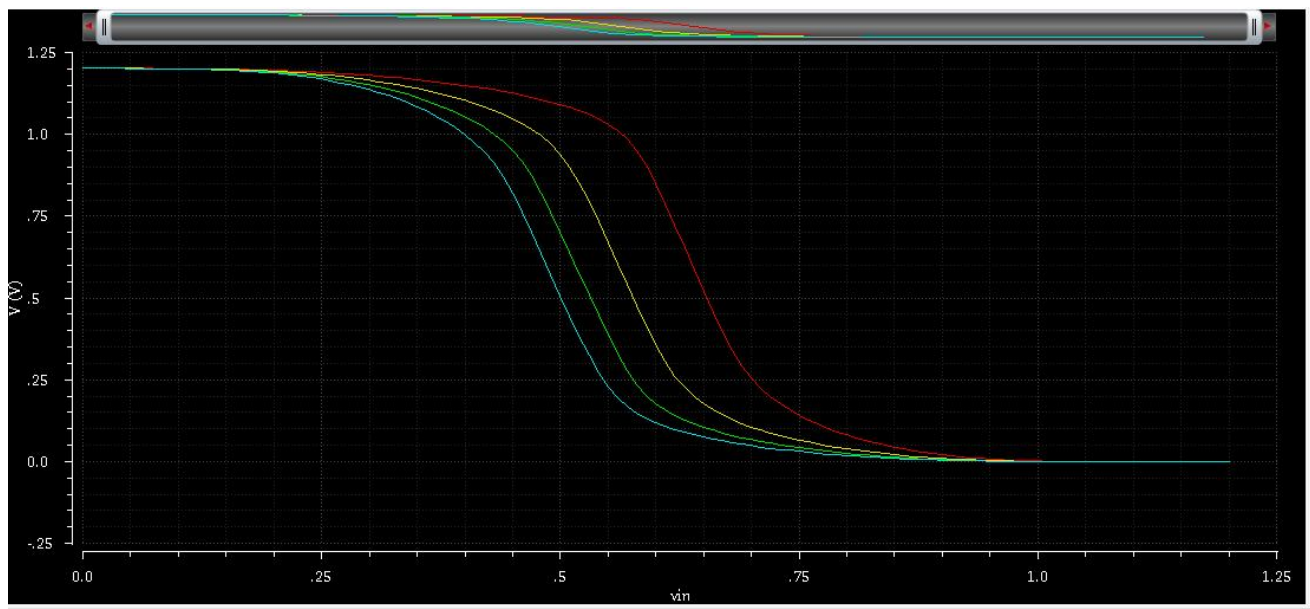

Figure 7: DC response of Inverter for different width of NMOS
- The schematic of OR gate was shown in figure 7.